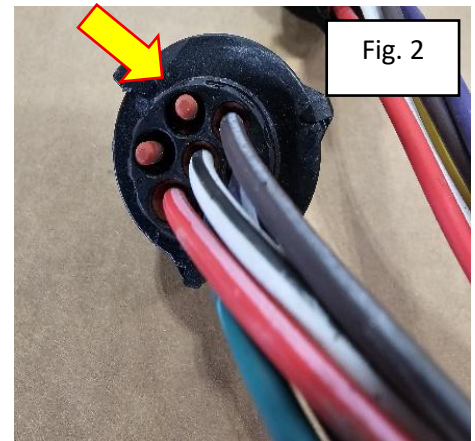

Fig. 2
2. On one of the plugs Locate Pin 7. Using Wire Strippers, remove the plug in pin 7. (Figure 2)
4. Locate pin 7 on the second connector, remove the plug from pin 7. (Figure 2)